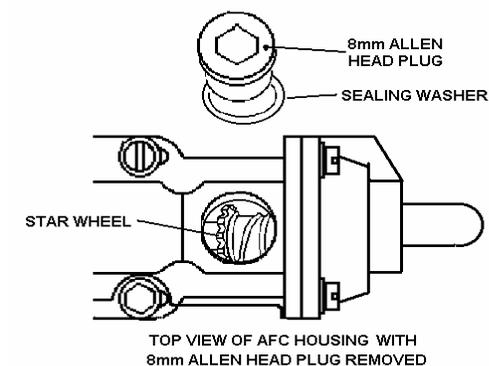

FIGURE 7
36. Test drive the vehicle. It should now have much more power and quicker acceleration. Observe acceleration rate and smoke. If vehicle is still slow to accelerate or has too much smoke, adjust the AFC setting as required. To adjust, remove the large plug on top of the AFC housing (see FIGURE 7) using an 8 mm allen wrench. Take care not to loose the sealing washer under the plug. Removing the plug exposes a star wheel which changes the quickness of fueling response to boost. If acceleration is weak with minimal smoke, rotate top of the star wheel toward the engine a few revolutions. If vehicle has heavy black smoke on initial acceleration, rotate top of star wheel away from engine a few revolutions. Reinstall large plug with sealing washer and test drive vehicle again. It may take repeated attempts to get this adjustment set. If heavy smoke is still encountered with star wheel moved completely to rear position, go back to step 26, loosen AFC housing and slide it rearward a 1/16 inch, retighten and test again. Repeat unit desired results occur.